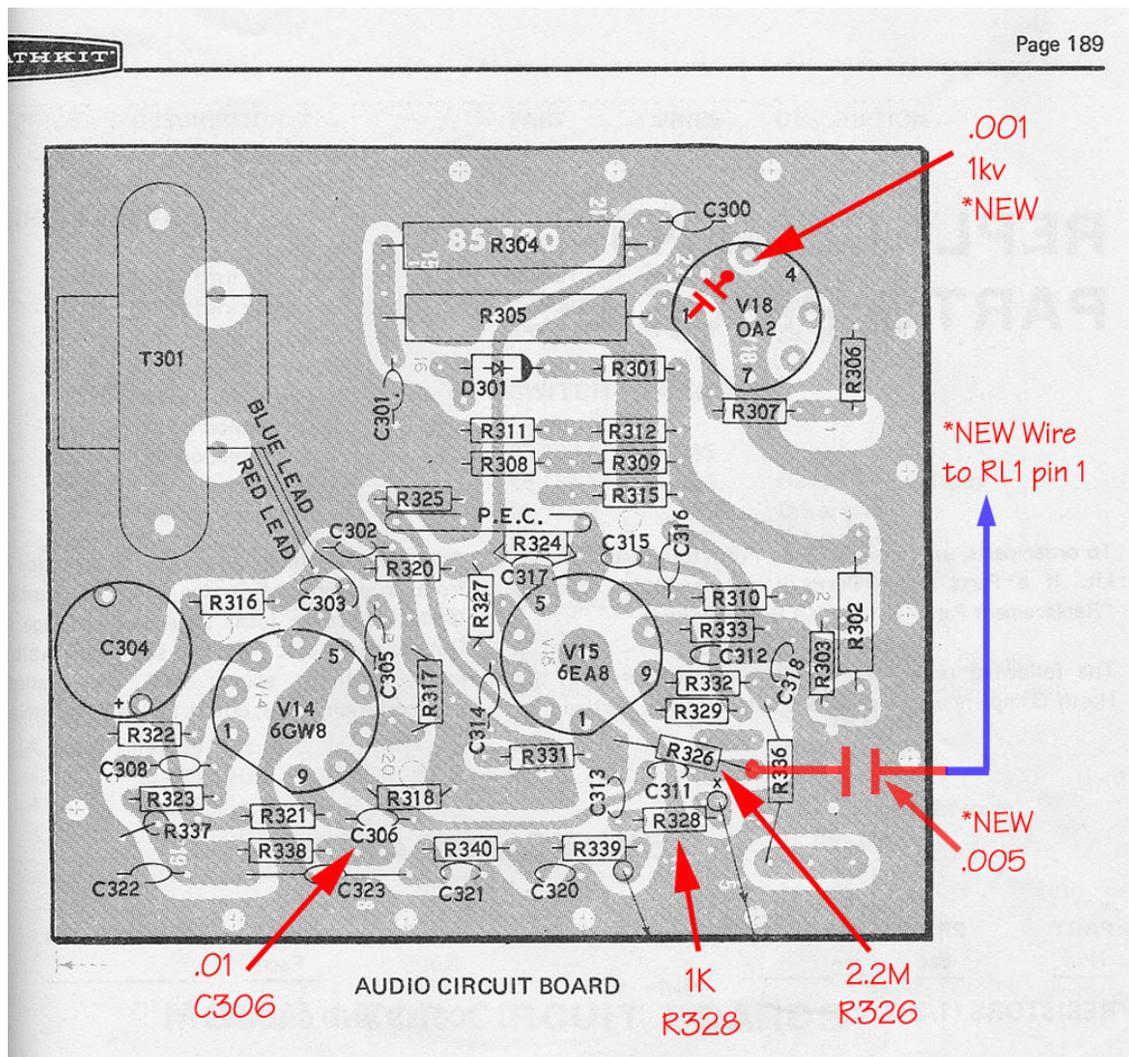

Figure 2
In the CW mode the rig's relays are energized by the CW sidetone amplifier's sidetone output driving the vox relay amplifier. The audio (sidetone) drive to the vox amp is a bit on the low side for fast relay action, and at speeds approaching 20 wpm the first dot sent is heard in the sidetone but isn't transmitted due to the slow relay response time. Correcting this is a very simple modification – simply replace the 470KΩ resistor R328 on the audio board with a 1KΩ resistor (**Figure 2**). This increases the drive to the vox amp enough to cause the relays to pull in quicker. Now the rig will key reliably at 20 wpm. The first dot tends to become shortened at 25 wpm but the rig is useable at this speed.
- 3) On the audio circuit board, replace 1M Ω resistor R326 with a 2.2M Ω resistor (**Figure 2**).
Additional rolloff of the high frequency response will remove the raspy nature of the receive audio, and this is accomplished by changing the value of capacitor C119 on the I.F. board from 500pf to .001 μ fd (**Figure 3**). The low-end audio response of the audio amplifier increases slightly by replacing coupling capacitor C306 on the audio board with a .01 μ fd disk capacitor (**Figure 2**).